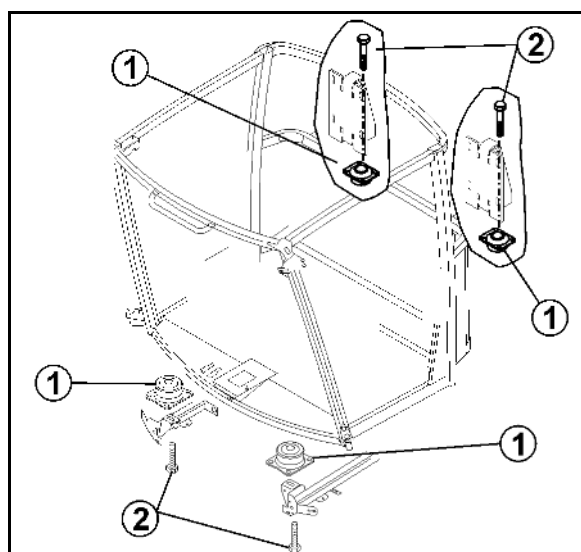

Fig. 189
1. Remove the circulating air grille (Fig. 189/1).